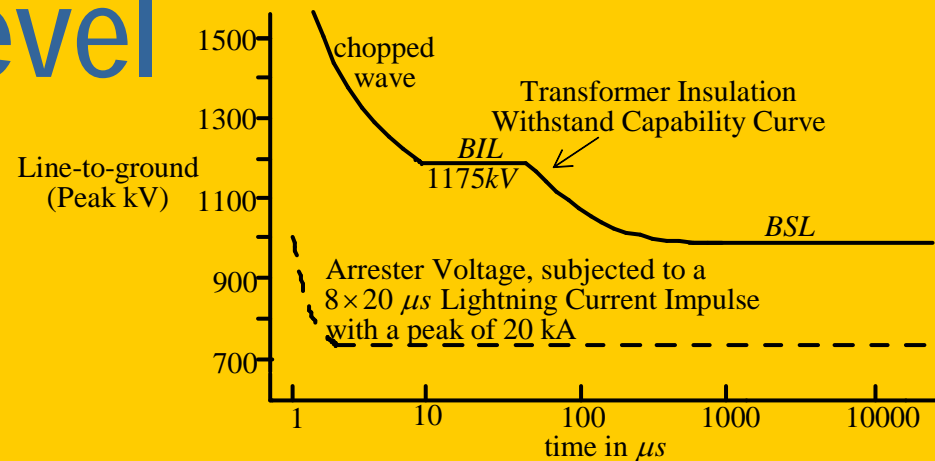

Fig. 14-7 A 345-kV transformer voltage insulation levels.
- As shown in Fig. 14-7, the same apparatus insulation can withstand higher voltages than BIL if the voltage impulse beyond the peak is chopped to bring it to zero in 3-4 microseconds.